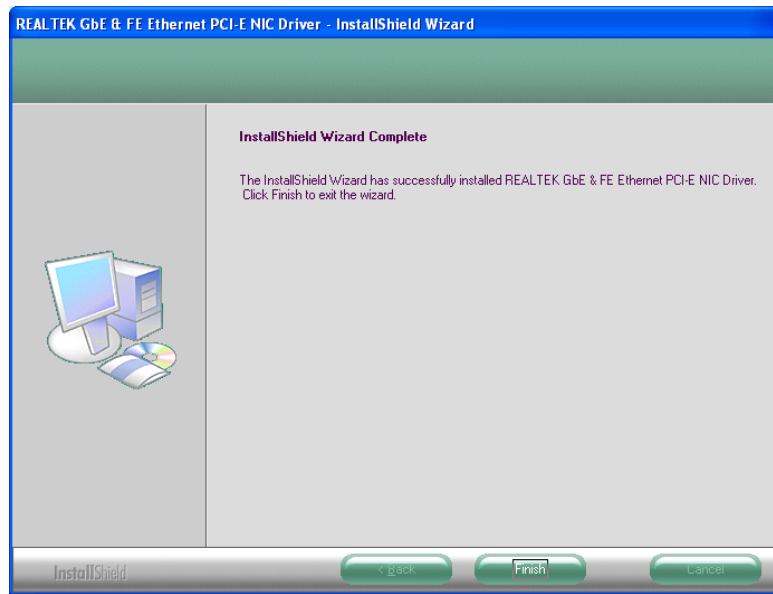

Figure 7-24: LAN Driver Installation Complete
Step 9: When the driver installation is complete, the screen in **Figure 7-24** appears.